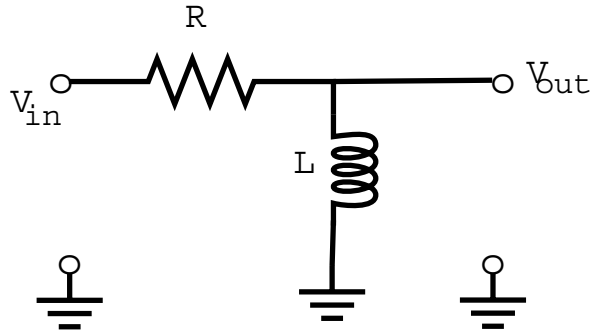

Figure 27: Basic RL circuit
In this lab, we will explore an RL circuit, which has the same setup as the RC circuit but with an inductor replacing the capacitor (see Figure 27).
1. Connect the circuit shown in Figure 27 using a $1\text{ k}\Omega$ resistor and an 18-gauge air core inductor with a nominal inductance of 5.5 mH ($\pm 2\%$). Use a function generator for the input voltage, setting it to a square wave output with a frequency of 1 kHz .
When a sinusoidal voltage is applied to the input, we get a sinusoidal voltage across the inductor in Fig. 27, but this voltage is out of phase with the input voltage.